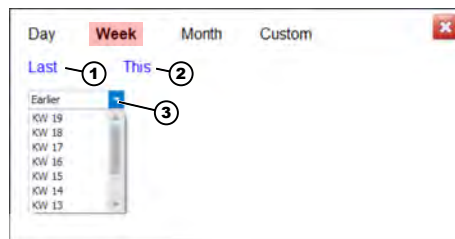

Fig. 18: [Own time period] / [Week]
3. Choose between [Last] (Fig. 18, item 1) and [This] (Fig. 18, item 2).
4. You can use the ▼ [Earlier] (Fig. 18, item 3) to select a calendar week (CW) that is already in the past.